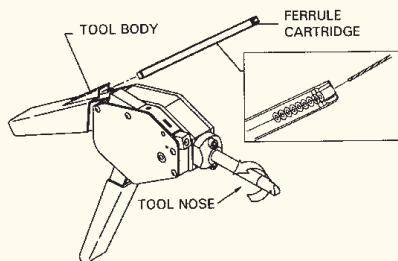

FIGURE 14: Safe-T-Cable® Tools
2.1.4. The nose can index to any position. To select the position grasp the nose and rotate to the desired position (Figure 14).
2.1.5. Insert the free end of the cable through the ferrule in the cartridge and remove the ferrule by pulling the cable away from the end of the cartridge (Ref. Figure 14).
3.1. The pre-set tension tool (Figures 14 and 15). Insert the free end of the cable into the cable entrance and continue to push the cable into the cavity. When the free end of the cable appears at the bottom of the tool, grip the cable and pull the slack from the cable until resistance is felt. Begin removing slack from the cable by repeatedly closing the tool handle allowing the handle to open fully before closing again. When all slack is removed from the cable, snug the tool against the fastener by using several short strokes of the handle. Release the handle to the full open position and fully close the handle to crimp securely and cut flush.